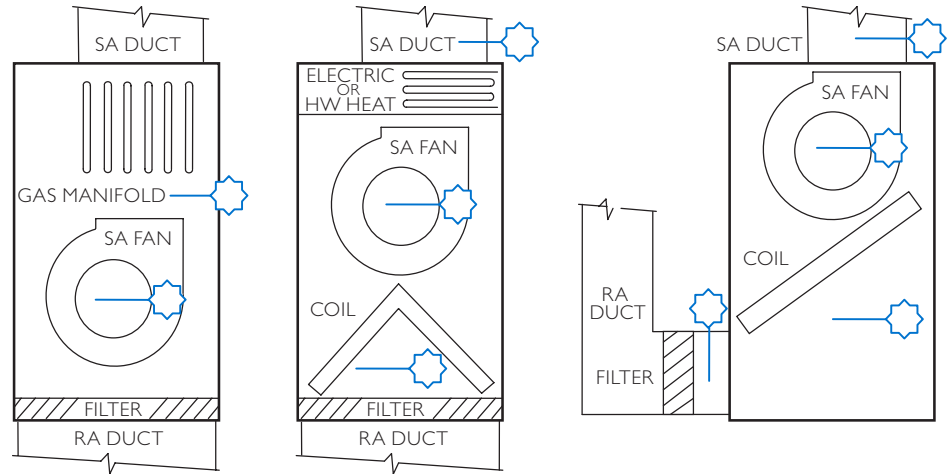

FIGURE 2 – SUGGESTED MOUNTING LOCATIONS IN A TYPICAL AHU OR FURNACE
3. If the unit cannot be installed in the preferred location due to space or temperature limitations, see Figure 2 for alternate locations. Units can be installed using “L” shaped brackets available from many hardware suppliers.